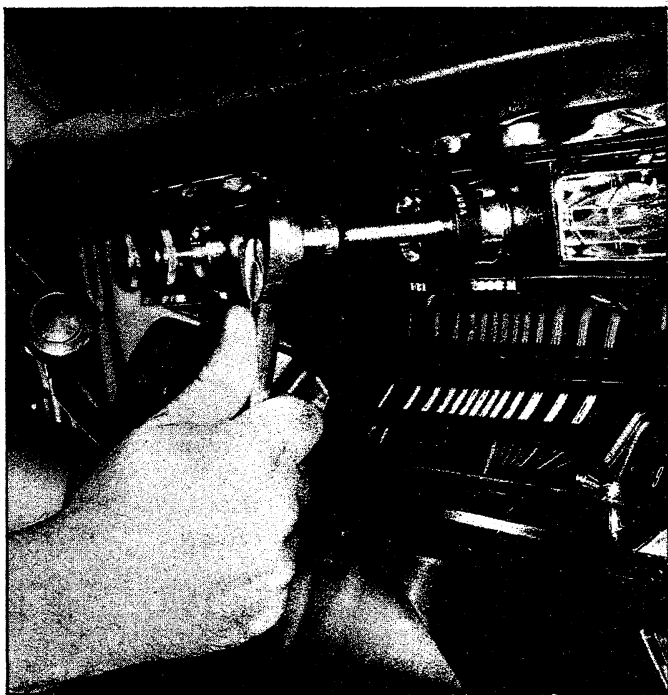

Fig. 21i—Removing Ignition Switch Nut
IGNITION SWITCH REPLACEMENT (Figs. 21i to 23i) CHEVROLET, CHEVY II AND CORVETTE
3. Remove the metal ignition switch nut from the passenger side of the dash using Tool J-7607 (Fig. 21i).